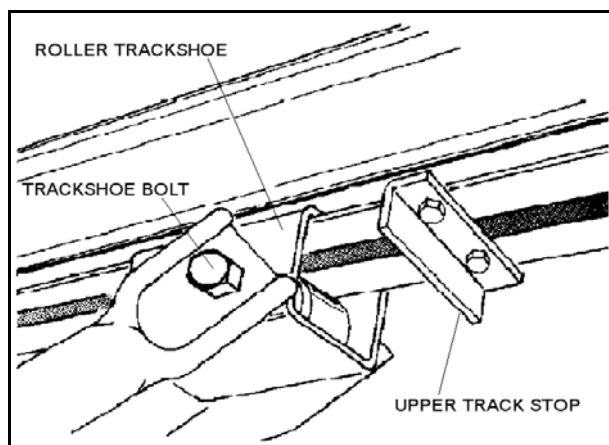

Figure 3.17 Track Shoe Bolt Installation
6. Attach both upper lift arms to roller trackshoe with one 5/8" x 6-1/2" bolt and locknut. **Do not over-tighten.** Tighten snug only; this bolt acts as a pivot point (Figure 3.17).